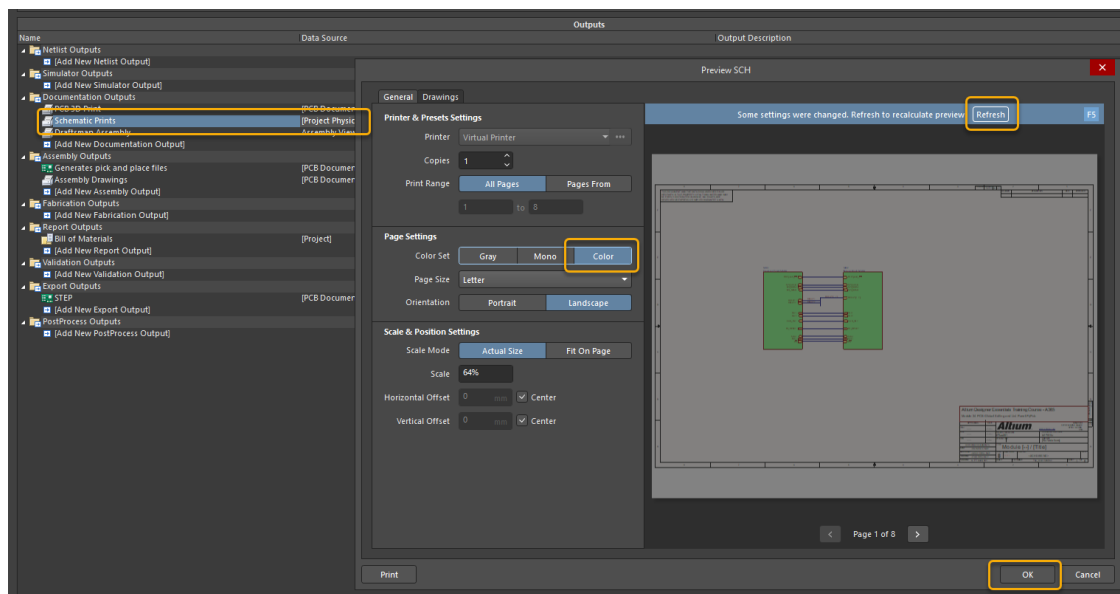

Figure 7. Schematic Prints
21. Right mouse click on the `Schematic Prints` section, and select **Configure** to see the Preview pop-up window, as shown in Figure 7.